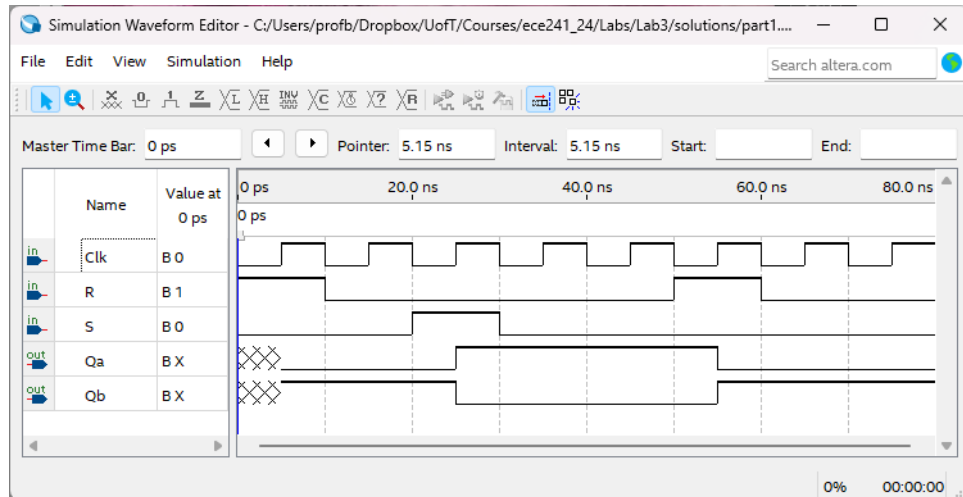

Figure 3: Simulation waveforms for the gated RS latch.
2. You are to simulate this Verilog code using the input waveforms for *Clk*, *R*, and *S* that are illustrated in Figure 3. You can create these waveforms by making a new ModelSim project and drawing the waves, or by making a Quartus project and then creating a new *University Program VWF* file to simulate within Quartus, or by writing a ModelSim testbench. Sample ModelSim setup files for using a testbench are provided as part of the *design files* for this exercise. Make sure that your simulation results for outputs *Qa* and *Qb* match those depicted in Figure 3, and that you fully understand how the latch circuit works.